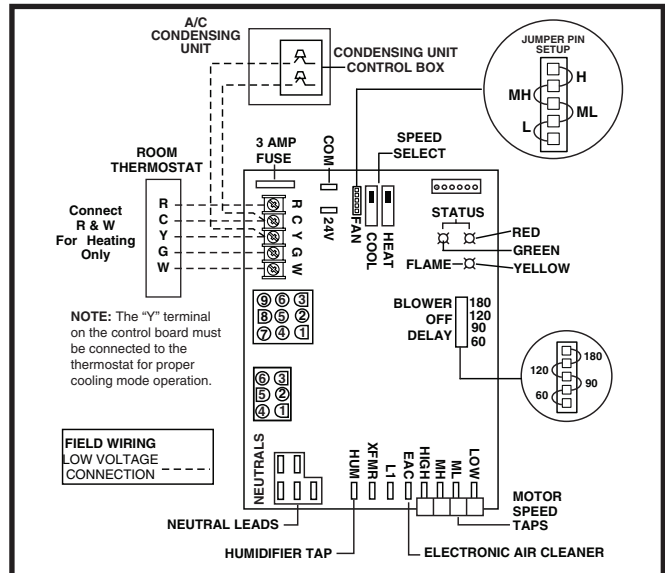
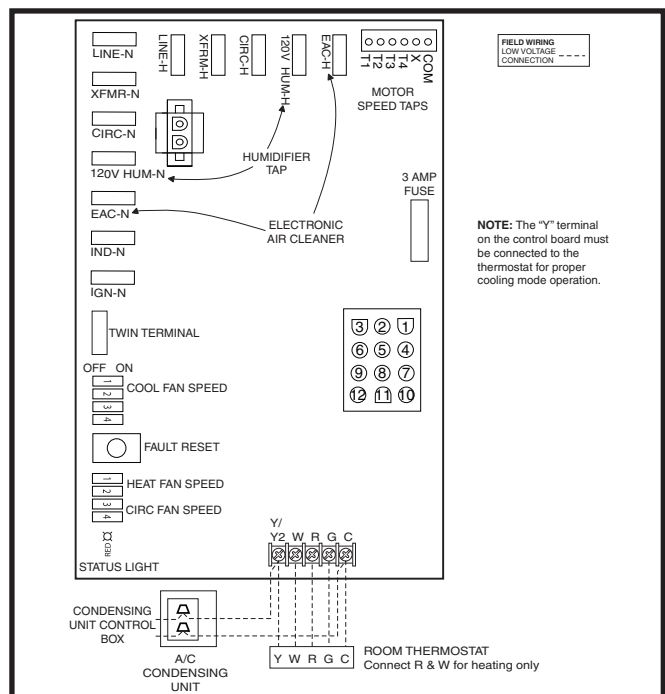

Figure 25. Nordyne/UTEC Low Voltage Field, Four-wire Heating/Cooling Applications
Figure 26. Emerson Low Voltage Field, Four-wire Heating/Cooling Applications
- The thermostat must be installed according to the instructions supplied by the thermostat manufacturer. Low voltage connections (24 VAC) from the thermostat are wired to the terminal strip on the integrated control in the furnace. Figure 25 contains the proper connections for heating only (two-wire) and heating/cooling (four-wire) applications. Recommended minimum wire gauge for thermostat wiring is shown in Table 6 (page 23).
- ✓ Verify the jumper on the Nordyne/UTEC board or dipswitch on the Emerson board (for fan speed) on the control board. See Figure 25 \(page 24\) and Figure 26 \(page 24\).